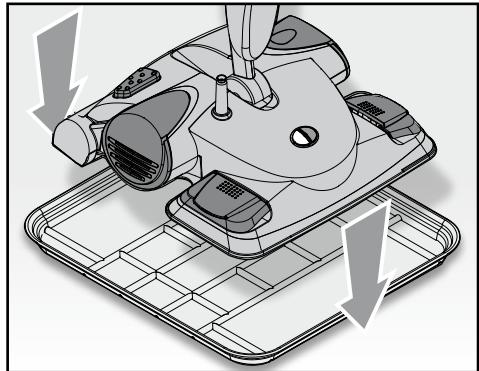
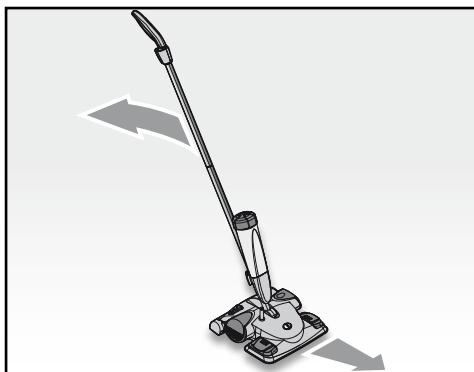

Fig. 6
Fig. 7
**WARNING: TO PROTECT PARQUET OR OTHER FLOORING IN CASE IS STEAM RELEASED DURING THE PRE-HEATING STAGE, WE RECOMMEND THAT YOU PLACE THE CLEANER PAD INSIDE THE SPECIAL BASE (A) PROVIDED (FIG. 6).**
- When the indicator light (R) switches on to show that the steam is ready, the appliance is ready to be used with steam.
- Tilt the handle (I) and align the handgrip (H) in the direction of use (Fig. 7), then proceed to use the appliance.
**IMPORTANT:** If the handle (I) is excessively tilted during use, it is possible that a small amount will leak from the central hole in the tank cap (M).